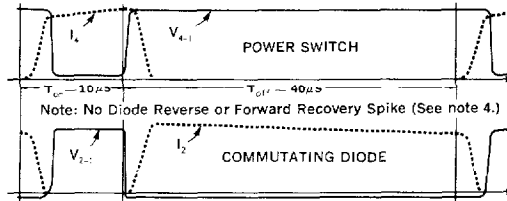

Figure 2. PIC600, PIC601, PIC602 Switching Waveforms
- No reverse recovery spike generated by commutating diode (See note 4 and Fig. 2.)
- In switching an inductive load, the current will lead the voltage on turn on and lag the voltage on turn-off (see Figure 2.). Therefore, Voltage Delay Time (t_{dv}) $\cong t_{di} + t_{ri}$ and Current Storage Time (t_{st}) $\cong t_{sv} + t_{fv}$.
- As can be seen from the switching waveforms shown in Figure 2., no reverse of forward recovery spike is generated by the commutating diode during switching! This reduces self-generated noise, since no current spike is fed through the switching regulator. It also improves efficiency and reliability, since the power switch only carries current during turn-on.